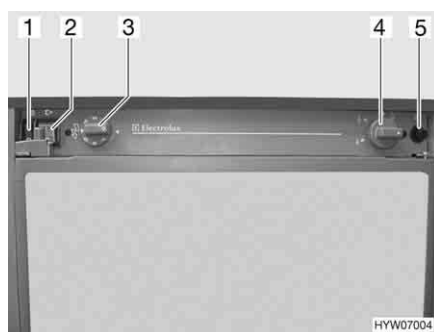

Fig. 61 Operating controls for refrigerator
- Set 12 V switch "⊕ -" (Fig. 61,1) to "O".
- Set 240 V switch " (Fig. 61,2) to "O".
- Press the control knob (Fig. 61,4) to large flame " and hold it down. Wait until gas gets into the burner.
- Press the gas ignition switch (Fig. 61,5) repeatedly until the flame appears in the inspection glass (bottom left in the refrigerator).
- Keep control knob (Fig. 61,4) pressed for another 10 to 15 seconds, then release.
- Set control knob (Fig. 61,4) to "0".
- Set 12 V switch " (Fig. 61,1) to "O".
- Set 240 V switch " (Fig. 61,2) to "I".
- Use control knob " (Fig. 61,3) to adjust refrigerating temperature.
- Set 12 V switch " (Fig. 61,1) to "I".